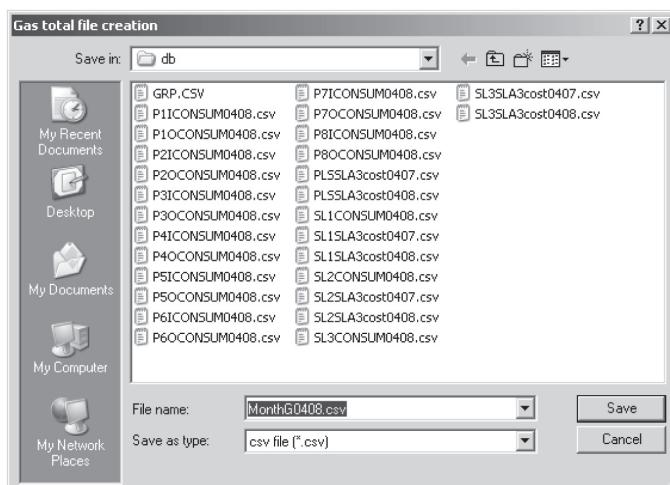

Fig.15 Input the file name dialog box
- 1) When you click the check box "The gas energy consumption", Fig.15 dialog box will appear. If you want to change the file name, the folder name and the drive name, select another drive name and the folder name, and type another file name that you want.